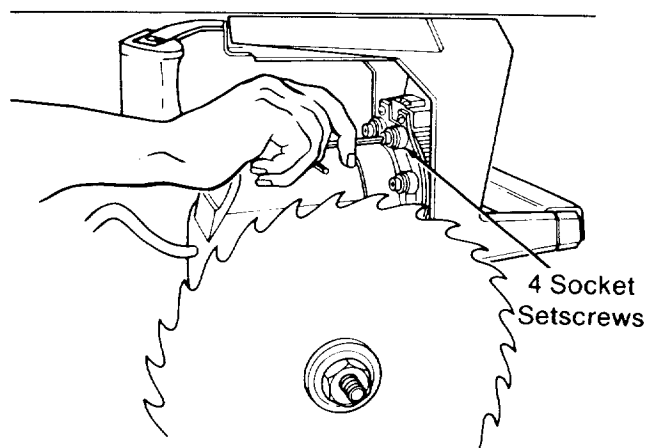

Fig. 88
9. Loosen the four screws behind the *yoke* using a 3/16 inch hex-"L" wrench. (Figure 88)